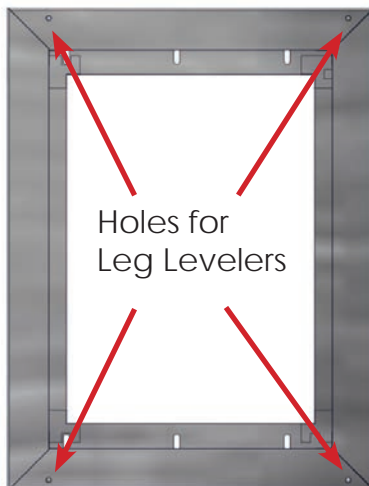

Fig. 8: Holes in Cabinet base
The Warming Cabinet base has 4 holes into which the Leg Levelers can be installed (Fig. 8).
3. Loosen the 3/8" straight-thru connector (See Figure 4, Item 1) and disconnect wiring from terminal board (Figure 4, Item 5) and from Fig. 8, Items 2, 3, 4.
4. Remove existing power cable (See Figure 4, Items 2, 3, and 4) from terminal block and pull out of Warming Cabinet through 3/8" connector (See Fig. 8, Item 1).
5. Feed facility wiring cable back through the 3/8" connector (See Fig. 8, Item 1) in the back of the cabinet and wire onto terminal board as shown in Fig. 8. Tighten the 3/8" to securely hold the facility wiring in place.